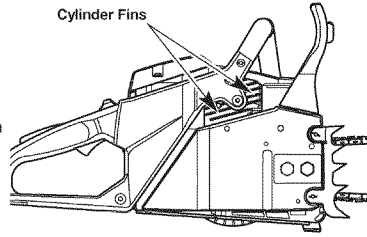

Fig. 54
5. Debris must be removed from the cylinder fins on a regular basis to reduce the risk of damage to the unit and personal injury from fire. Use compressed air, at 40 PSI or lower, to blow debris from the cylinder fins (Fig. 54). Always wear safety goggles/glasses when cleaning the cylinder fins with compressed air. Use a small wire brush to dislodge stubborn debris. Do not use water or solvents on the cylinder fins. If there is a significant amount of debris that remains after cleaning, have the cylinder fins cleaned by an authorized service dealer.